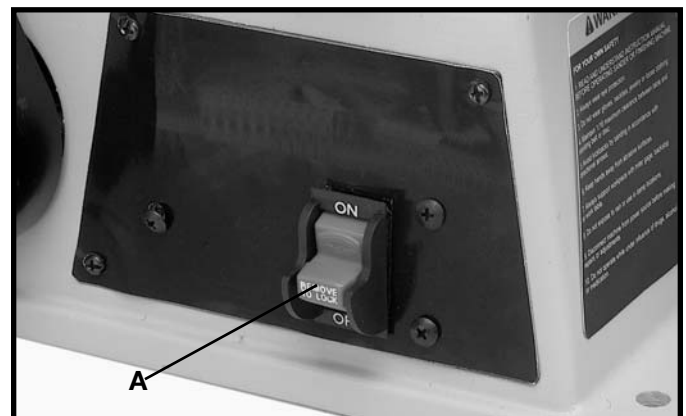

Fig. 22
The switch (A) Fig. 22, is located on the sander base. To turn the sander "ON" move the switch up to the "ON" position. To turn the sander "OFF" move the switch down to the "OFF" position.